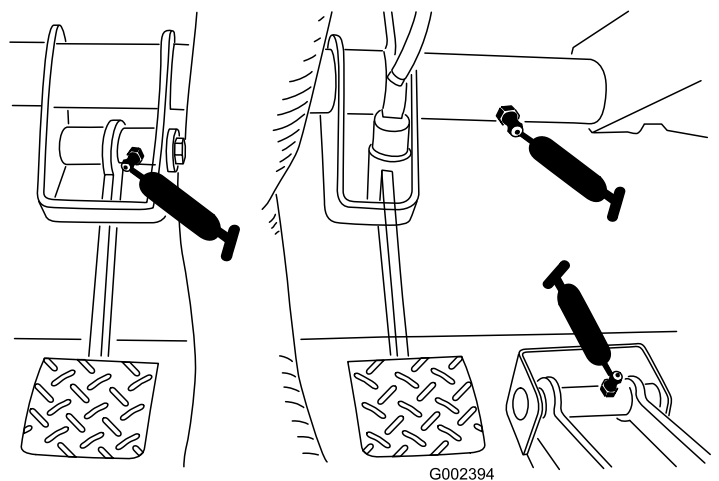

Figure 43
- Clutch (1), accelerator (1), brake (qty.1) (Figure 43)